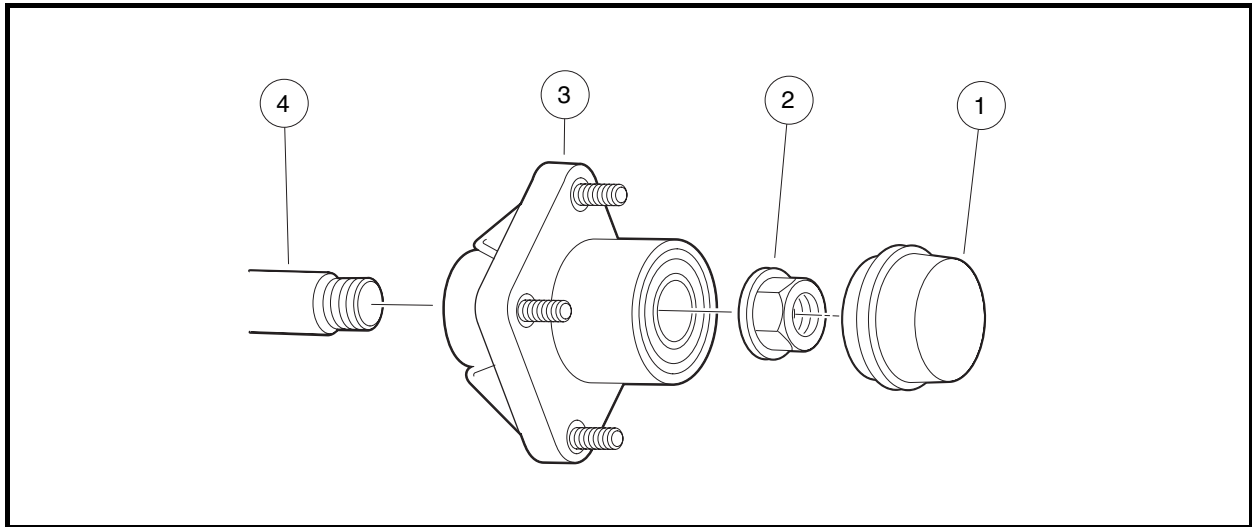

Figure 7-26 Front Wheel Hub - DS Villager 4 Vehicles
2. Remove dust cap (1) and lock nut (2) (**Figure 7-26, Page 7-25**).
3. Slide the hub assembly (3) off of the spindle shaft (4).
2. Slide the hub assembly (3) onto the spindle shaft (**Figure 7-26, Page 7-25**).
5. Install the dust cap (1) using a rubber mallet and tapping lightly around the edge of the cap.